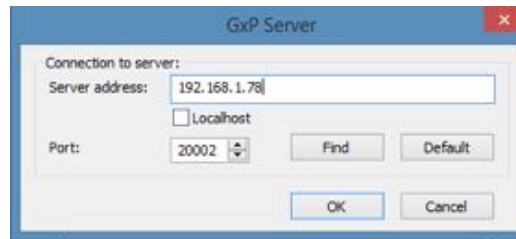

Figure 4-36: Manual Entry of Remote Host Address
- **Remote host on another subnet**—If the ForteBio FB Server module is hosted on a different subnet, deselect the **Localhost** check box. Enter the IP address of the computer hosting the ForteBio FB Server module (Figure 4-36) and click **OK** to save changes and exit. The ForteBio FB Server module location will now be listed as the Server in the Login box.